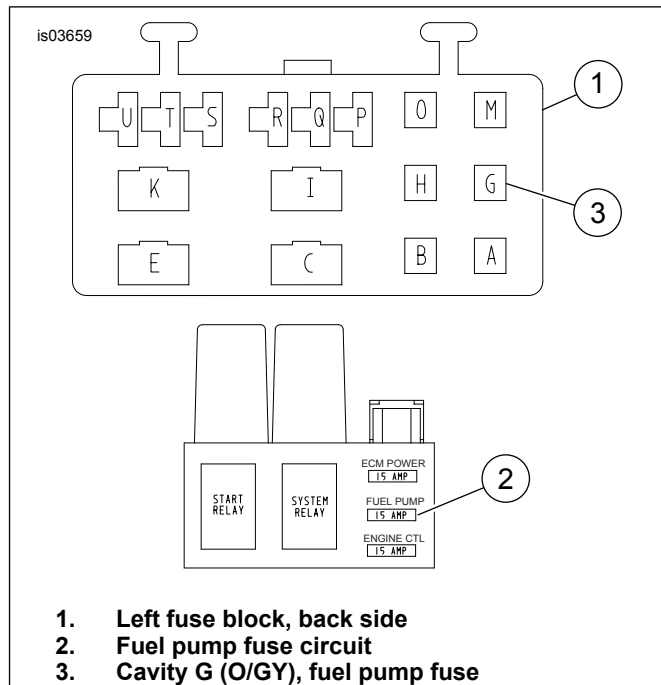

Figure 22. Left Fuse Block (Stock)
- See Figure 22. Remove fuel pump fuse (2) from left fuse block.
- See Figure 22. Using terminal pick tool, remove fuel pump fuse (O/GY) terminal wire from cavity G (3) in left hand fuse block.